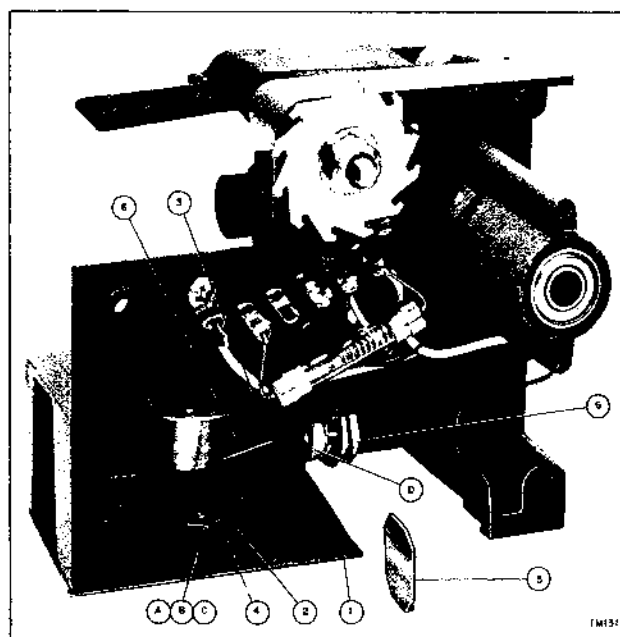

Figure 13
5. Remove four mounting screws (A) and (B) from rear of assembly and remove assembly (figure 13).
- NOTE:** Shorter screws (B) go in front mounting holes.